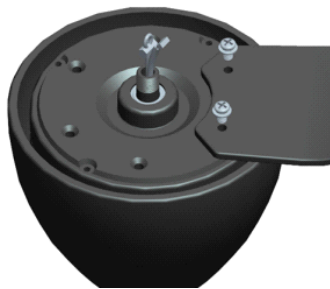

Fig 2.1
2.1 Align two blade holes with the screw holes of the motor housing and fasten blades with the blade screws as shown in Fig 2.1. Repeat for the remaining blades.